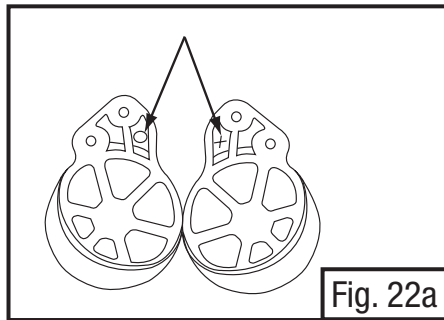

Fig. 22a
- Inspect the black plastic earmuff mounts and locate the “X” and “O” molded into the plastic. There is a left side and right side mount (earmuff). As worn, the mount with the “X” on it should be on the right side of the headgear and the mount marked with an “O” should be on the left side (i.e. “X” on the right, “O” on the left). Fig. 22a depicts the location of the “X” and “O” markings on the mount.